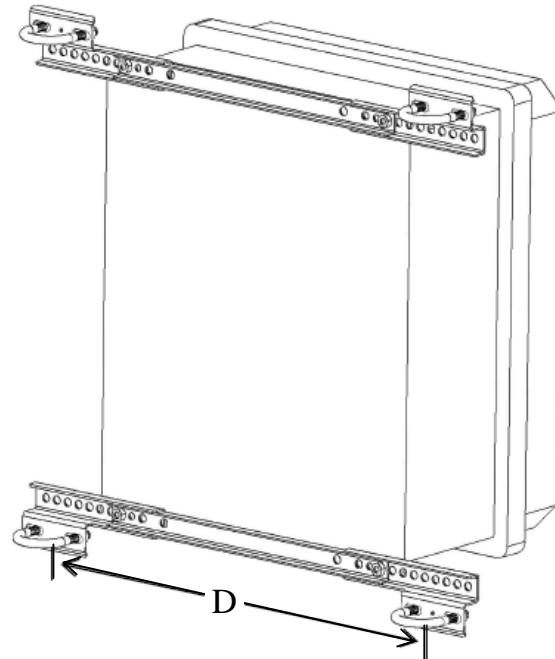

Figure 5. Enclosure brackets configured for a tower mount.
The tower mount enclosure option is used to attach our enclosures to the ATW3 tower. An enclosure ordered with the tower mount option will be shipped with a three-piece bracket for fitting to the top of the enclosure and an identical three-piece bracket for fitting to the bottom of the enclosure. For the ATW3 the distance between the centres of each flange needs to be 31 cm (see Figures 5, 6, and 7).
2. Slide out the flange sections so that the distance between the centres of each flange is 31 cm (see Figure 5).